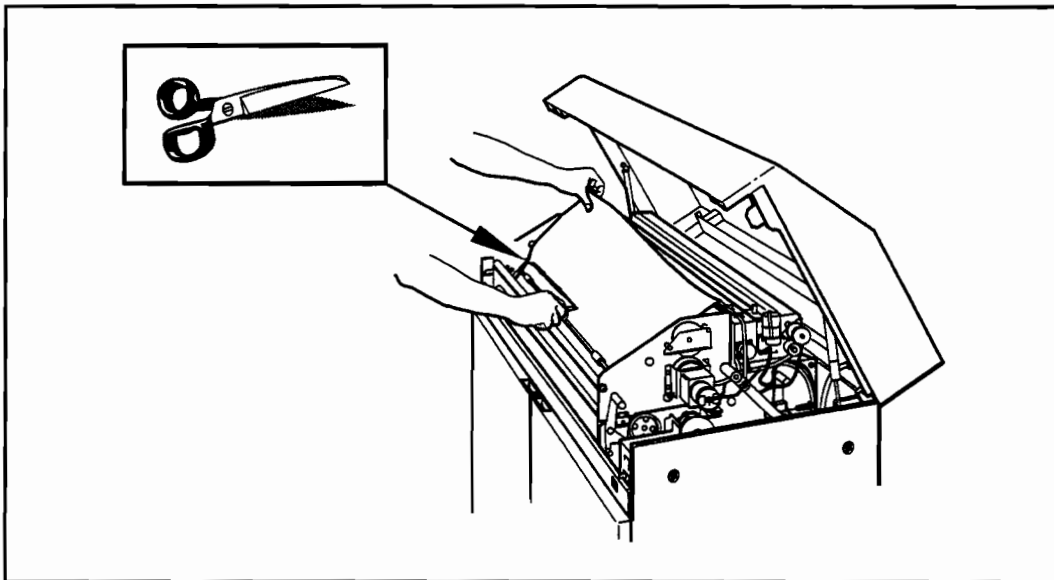

Figure 7-6. Cutting the Media at the Scissor Mark
1. Turn the plotter line switch ON (I).
3. Using the front panel keys, advance approximately two (2) meters (6 feet) of media through the cutter without cutting it off.
4. Turn OFF (O) the plotter.
5. Cut the media at the scissor mark where the media comes out of the lower frame. See Figure 7-6.